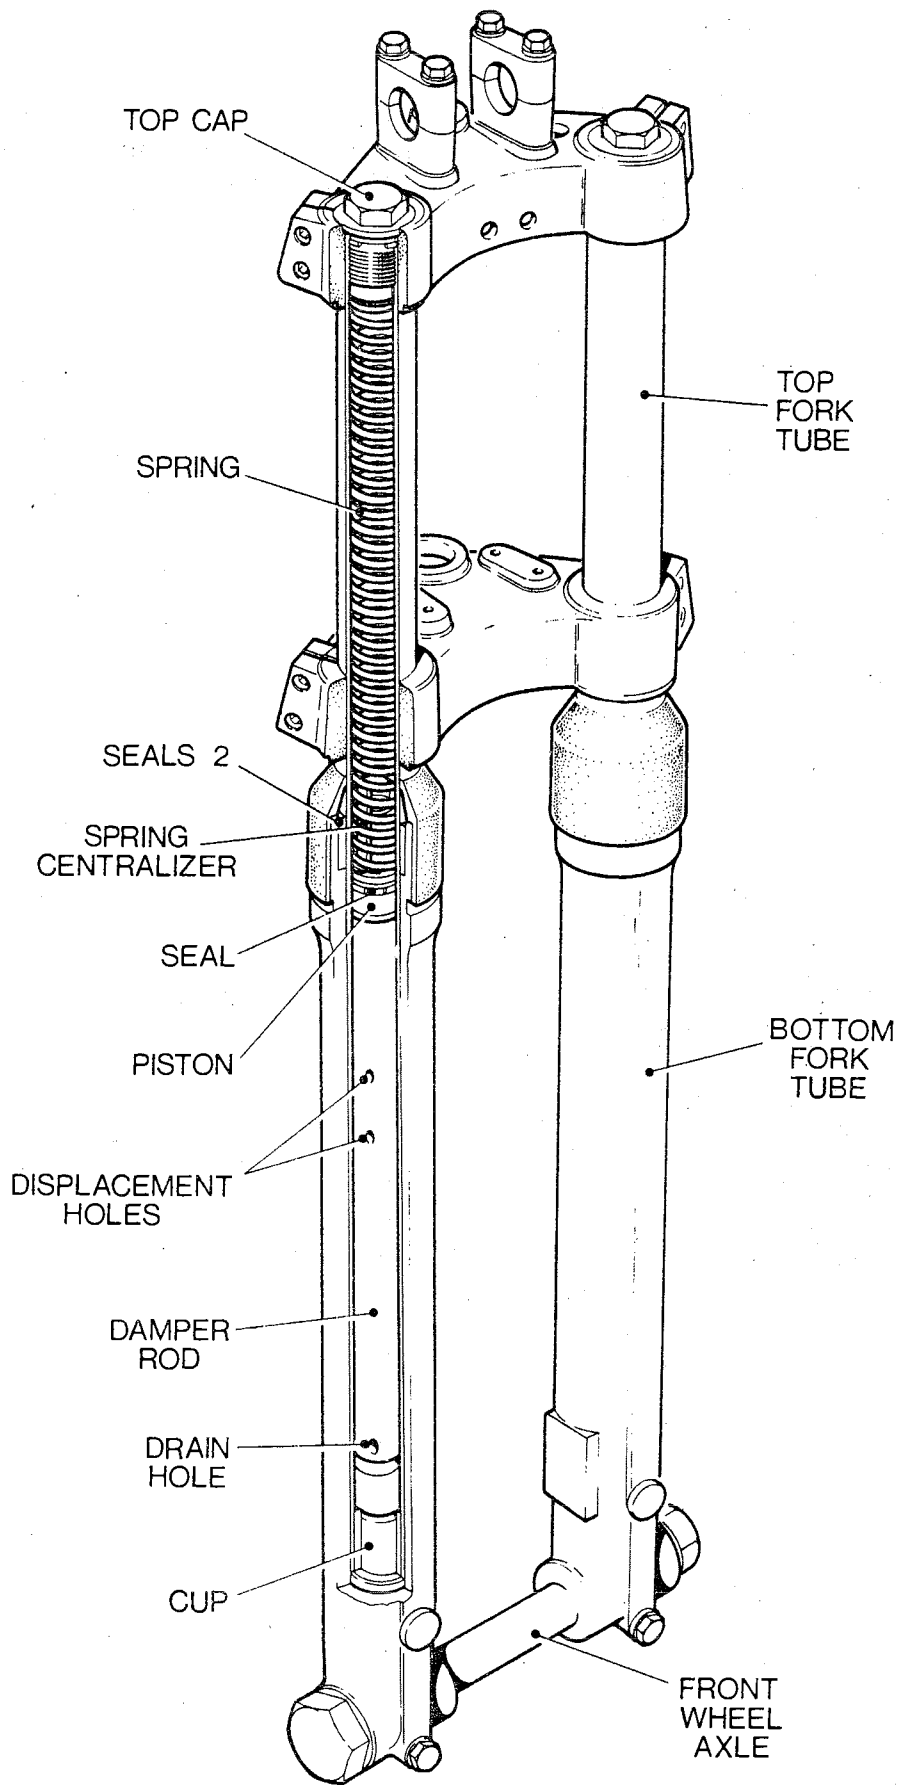

Figure 8.1 - Front Suspension Unit
8.5 Operation. The fork springs form the main part of the suspension as in normal vehicle systems employing leaf or coil springs. The spring oscillations are damped out by using a hydraulic damper. As the unit is compressed air in the top chamber is pressurized. The pressure is felt down the centre of the piston rod and forces the oil level down. The oil is forced out of the hole(s) in the piston rod. As soon as the oil uncovers the hole air pressure is released into the bottom chamber. If the unit is compressed more the pressure in the top tube is increased and the oil in the piston rod is forced down further. The travel is consequently greater and the second hole is uncovered. The damping effect therefore is by forcing the oil out of the holes. If a thinner oil is used it will pass through the holes more readily giving softer ride and conversely if thicker oil is used it would mean harsher damping. Again if the oil level is too high more pressure would be required to push the oil level down to the holes, and again it would lead to harder suspension. Conversely if the level were too low only a small pressure would be required to uncover the holes. As the spring re-asserts itself a depression would be felt in the top chamber as the volume increased and oil would be drawn from the bottom chamber through the holes to the inside of the piston rod, thus causing a damping effect on the upward stroke as well as the downward stroke. See Figure 8.1.